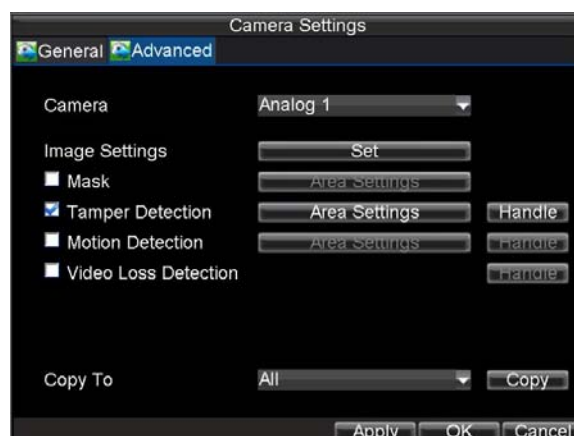

Figure 16. Camera Settings Menu
4. Check the **Tamper Detection** checkbox, as shown in Figure 16.